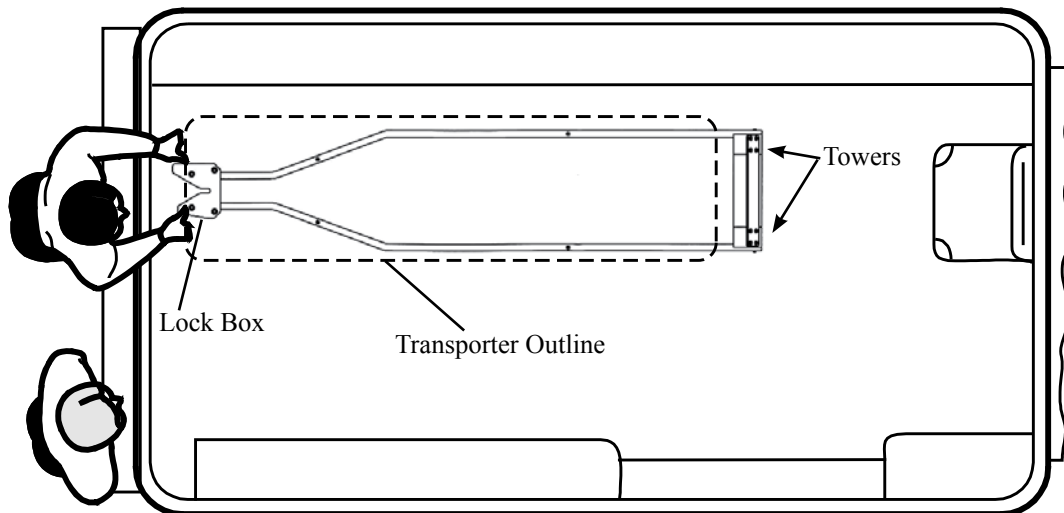

Figure 1 - Loading the Transporter Into the Fastener
2. Guide the transporter into the ambulance (Figure 1) and align the fastener post on the control end of the transporter with the fastener lock box.